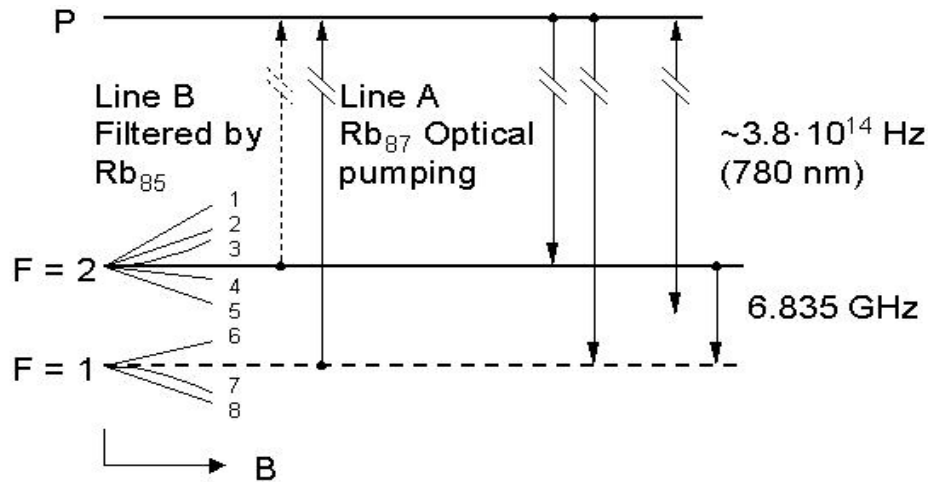

Figure 2.1-1 Energy levels and transitions in Rb87 atoms during LNRCllok operation.
In order to detect the clock transition between these two levels, the atoms need to be manipulated in such a way that most of them occur in only one level. This is done by optical pumping via a higher lying state (P). Figure 2.1-1 visualizes the atomic energy levels and transitions involved in the optical pumping process.